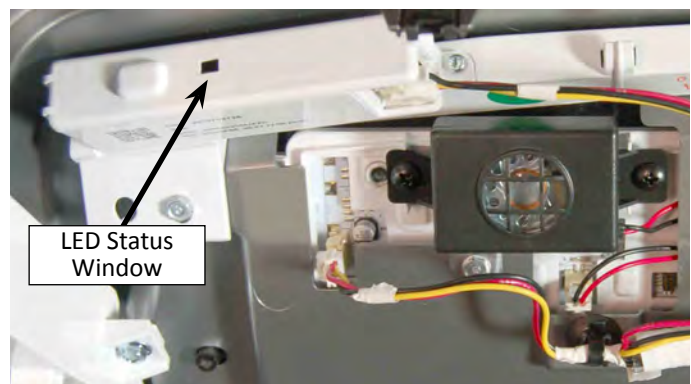

Figure 5 - WiFi Status LED Window
8. **Check WiFi Status LED**—Locate the WiFi Status LED window as shown in Figure 5. Repeat the WiFi connectivity process as stated in Step 1. During the connectivity process, does the WiFi Status LED blink fast?